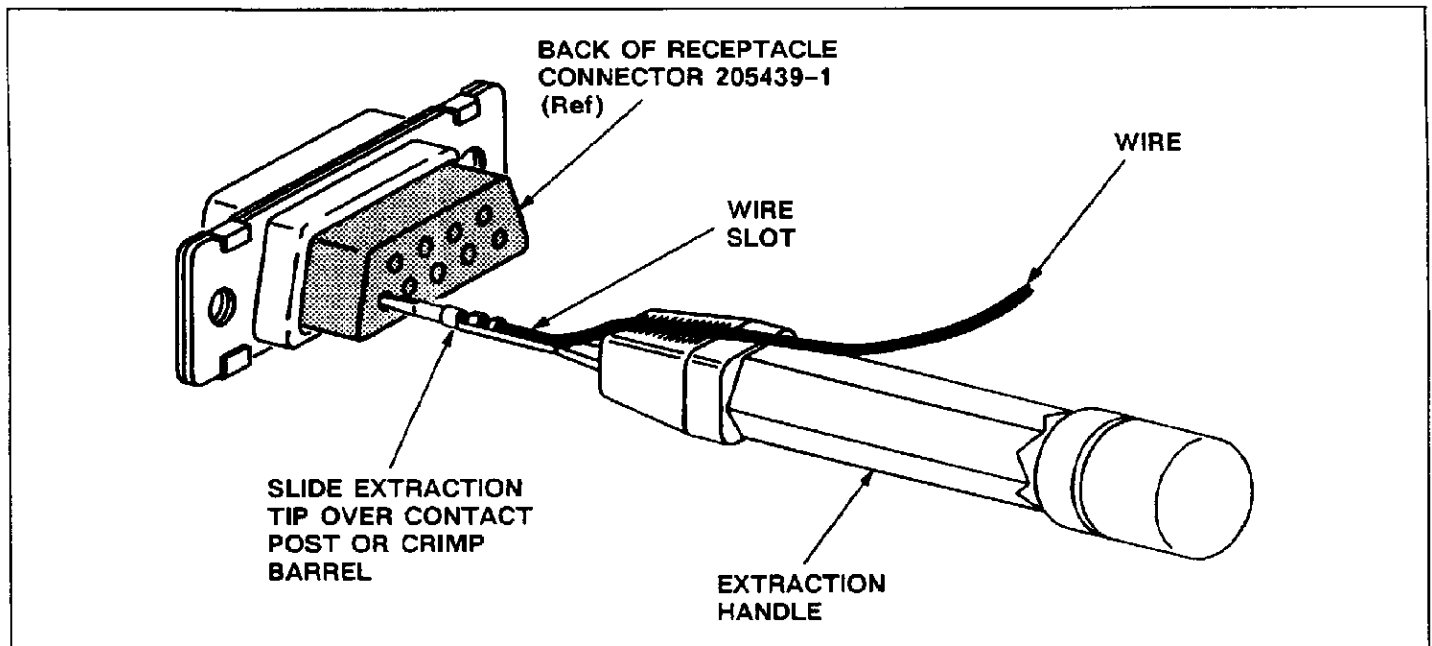

Fig. 4
B. Extracting A Wire Crimped Contact (Figure 4)